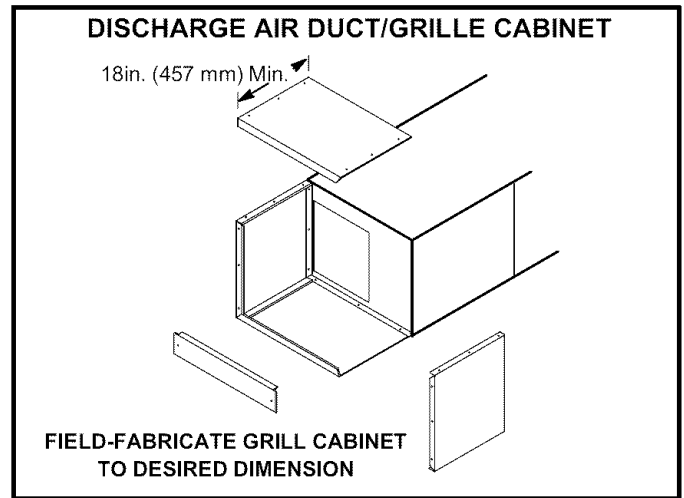

FIGURE 22
A field-fabricated and installed discharge air duct and grille cabinet is suitable for use with the G61MP heater. See figure 22. Keep the following items in mind when constructing the cabinet.
- 1 - Outer dimensions of cabinet should match those of the unit heater, so the duct/grille cabinet installs flush with the unit heater cabinet. See figure 22.